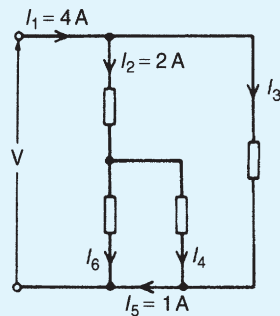

Figure 13.11
1. Find currents I_3 , I_4 and I_6 in Fig. 13.11